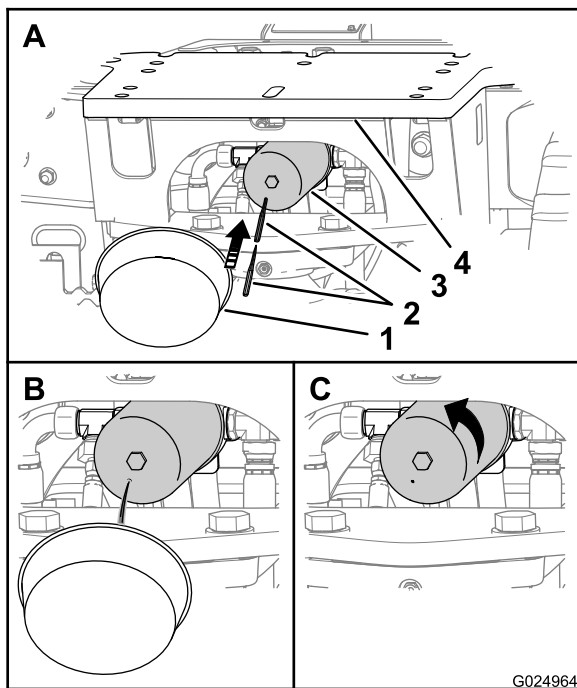

Figure 112
Note: You can access the hydraulic-return filter from underneath the rear-attachment plate of the machine (Figure 112).
1. Place a container under the hydraulic-return filter (Figure 112).
3. Rotate the hydraulic-return filter counterclockwise and remove the filter (Figure 112).